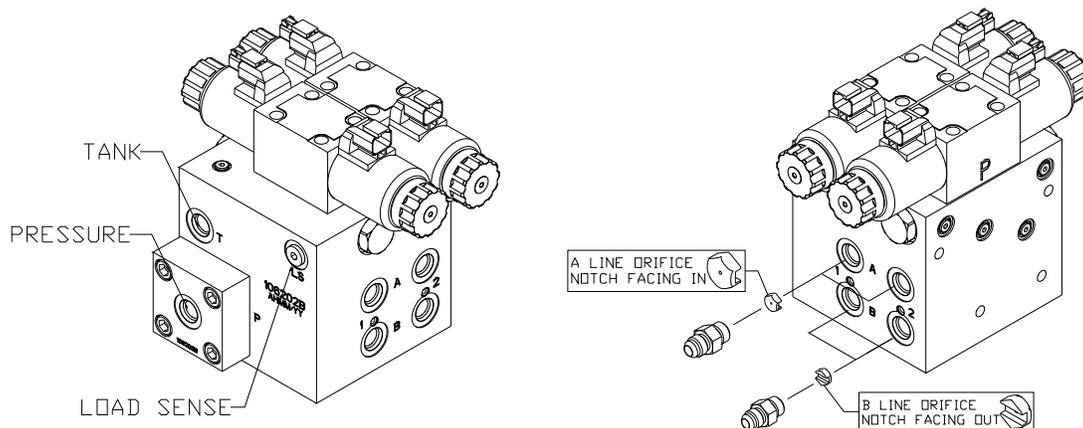

Figure 28: Double Acting NORAC Valve Block Details
3. Insert the two orifices (F01) into the “B” ports with the notch facing out. **(Figure 28)**
5. Insert the two orifices (F01) into the “A” ports with the notch facing in. **(Figure 28)**